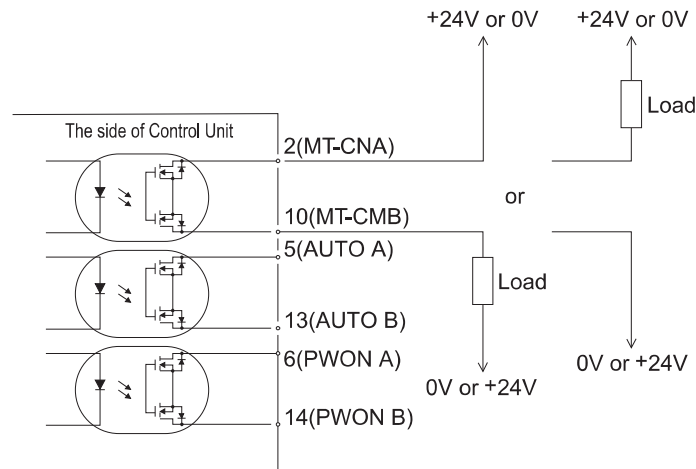

Fig. 40
Use an External Power Source for Output Circuits. It is recommended to use a separate power from the one used for Input/Output Connector A ② . Please refer to Fig. 40 for connections.